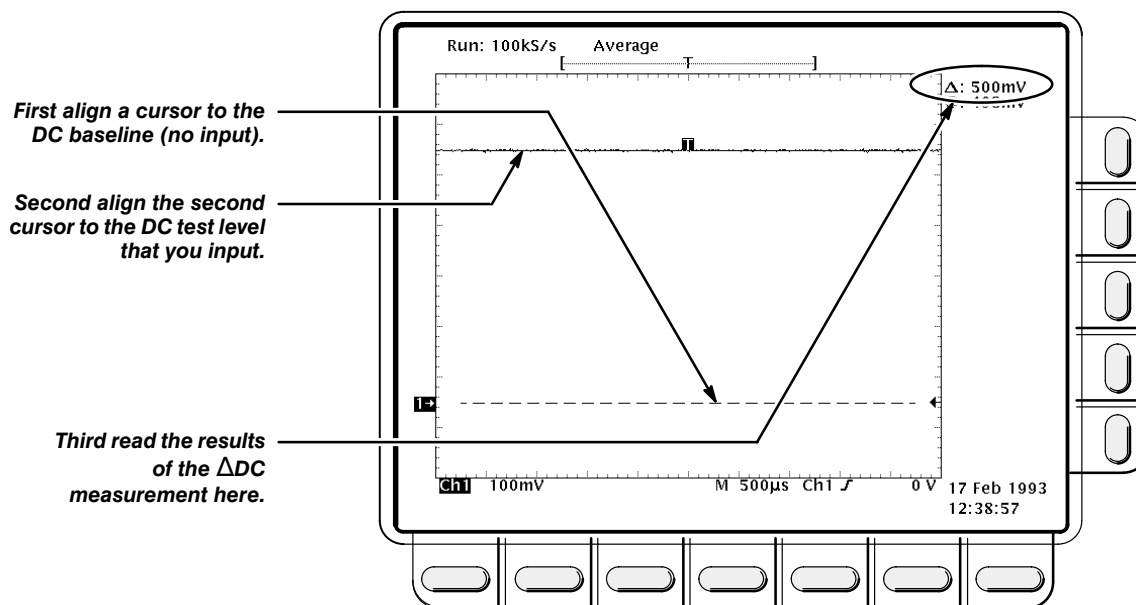

Figure 1-6: Measurement of the DC Accuracy for Delta Measurements
- Press **CLEAR MENU**. Read the measurement results from the delta (Δ :) readout, not the absolute (@:) readout. See Figure 1-6 on page 1-28.
- d. *Check against limits:* CHECK that the Δ : readout on screen is within 485 mV to 515 mV (see Figure 1-6).